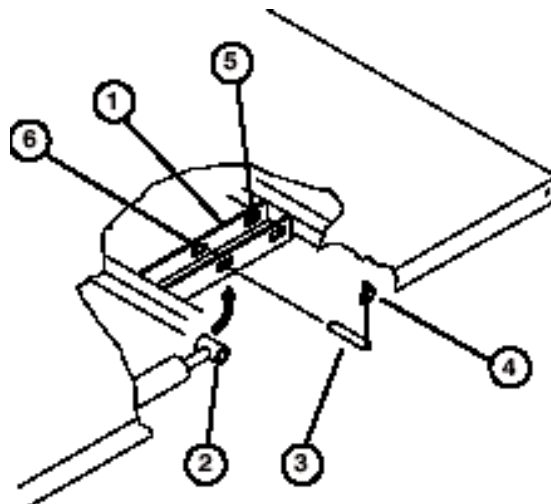

Figure 10
3. Remove the clevis pins securing the cylinder rod ends to the bed mounting plates by pushing the pins toward the inside (Fig. 10).
4. Remove the lynch pins and clevis pins securing the pivot brackets to the frame channels (Fig. 10).
Note : Assure rear pivot plates are bolted to the bed frame/channel so that lower end angles to the rear (Fig. 10).
2. Carefully set the bed onto the vehicle frame aligning the rear bed pivot plate holes with the holes in the rear frame channel and install (2) clevis pins and lynch pins (Fig. 10).
3. With the bed lowered, secure each cylinder rod end to the appropriate slots in the bed mounting plates with a clevis pin and a lynch pin. Insert the clevis pin from the outside of the bed with the lynch pin toward outside (Fig. 10). Rear slots are